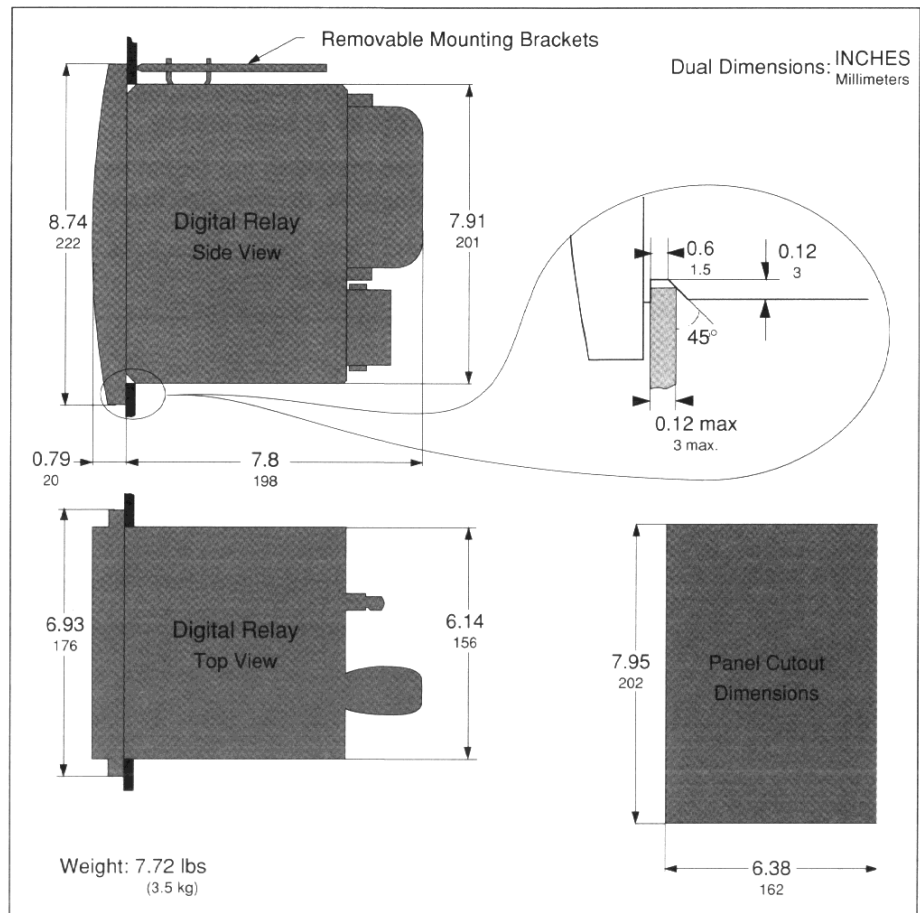
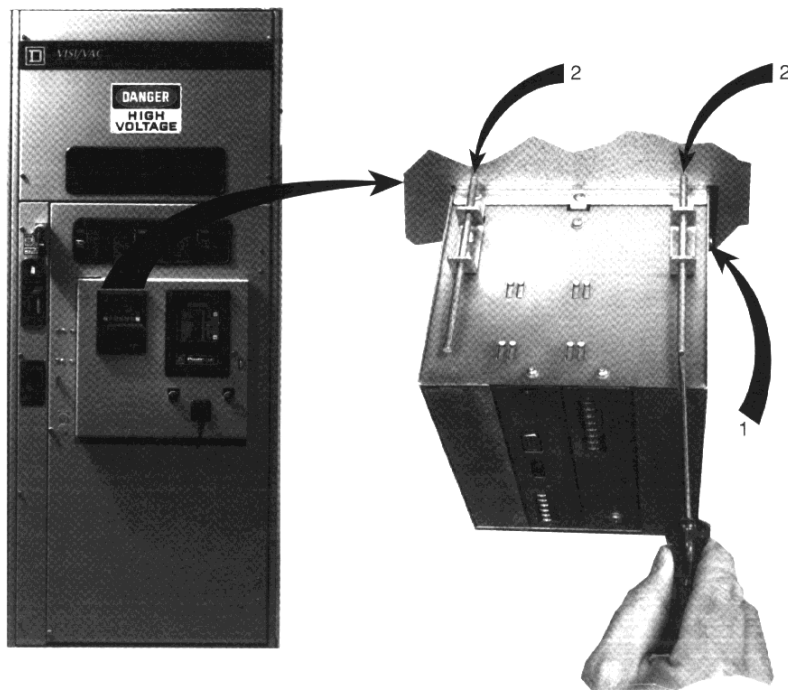
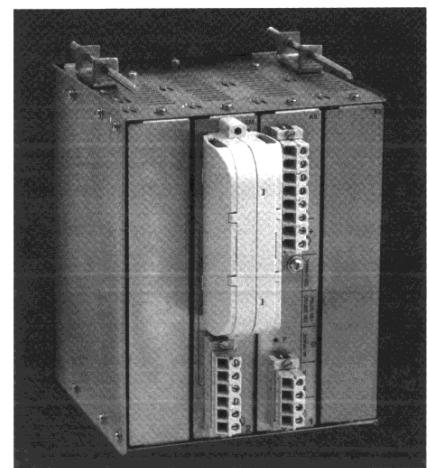

Figure 10: Digital relay dimensions
Figure 11: Installing the digital relay in equipment panel
Figure 12: Rear view of digital relay installed in panel
The digital relay is a semi-flush-mounted device that projects through the back of a panel or circuit breaker cell door. Mounting dimensions are shown in figure 10.
- Depth of the digital relay. Refer to figure 10 for digital relay dimensions, and figure 89, page 81, for dimensions of the optional rear cover.
The digital relay is designed for flush-mounting on a panel less than 0.12" (3 mm) thick (see figure 10). Follow these steps to install the digital relay in the panel:
2. Referring to figure 10, prepare the cutout.
3. Insert the digital relay through the cutout; seat the two notches at the bottom of the digital relay (1, figure 11) onto the panel sheet metal. (A close-up of these notches is shown in the inset in figure 10, page 12.)
5. Tighten the threaded studs of the brackets (2, figure 11) until they are firmly against the back of the panel (figure 12).